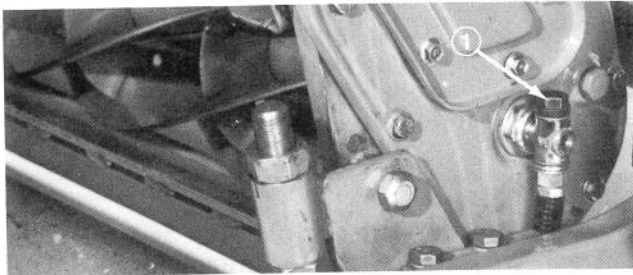
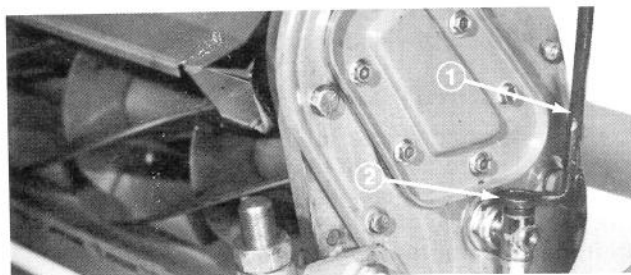

Figure 25
Figure 26
2. Rotate reel, engage Reel Adjustment Wrench, Part No. 42-3330, (Fig. 26) with Reel Adjusting Screws (Fig. 25) and adjust both ends of bedknife so they are in light contact with reel blades. Reel should rotate freely after adjustment. High spots
**Note:** A light contact adjustment between reel and bedknife will produce best cutting results. If units are adjusted at proper intervals only a minute adjustment will be required. Use the points in the Adjusting Wrench as index points so adjustments can be made in small increments. One sixth turn in either direction moves the bedknife approximately .003 inch (0.076 mm) toward or away from reel (Fig. 26).